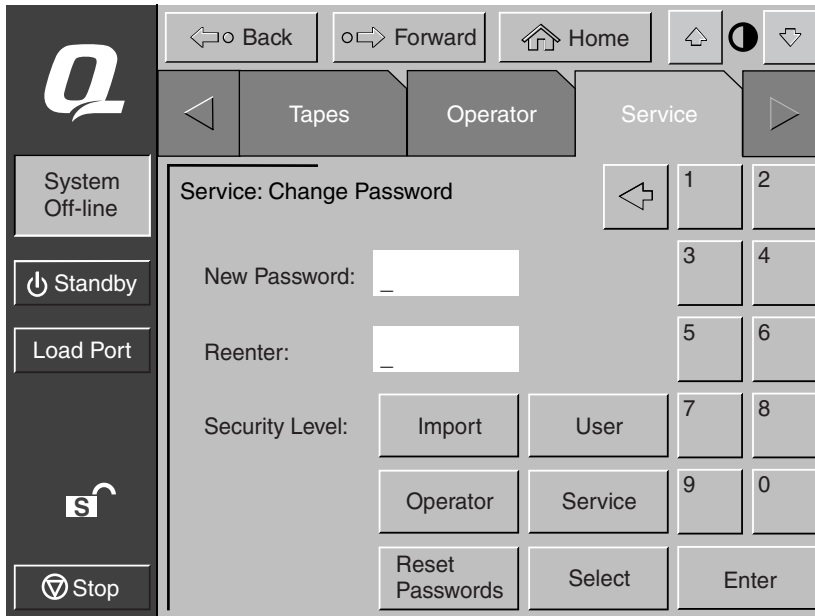

Figure 3-6. Password screen
1. Press the **Lock** icon. The Password screen appears (see Figure 3-6).